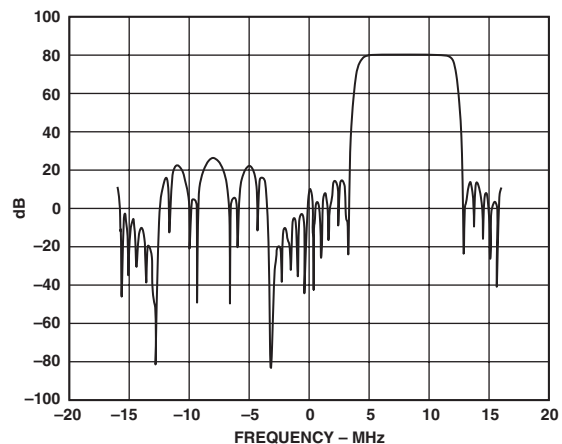

Figure 5. Tx Hilbert Filter, Keeping Positive Frequencies Spectral Plot
The Hilbert filter is available to provide a Hilbert transform of "real" input data at a low intermediate frequency (IF) between 12.5% to 38% of the input data rate. The Hilbert filter essentially transforms this "real," single channel input data into a complex representation (i.e., I and Q components) that can be used as part of an image rejection architecture. The complex data can then be processed further using the on-chip digital complex modulators. The Hilbert filter requires $4\times$ interpolation to be enabled and accepts data at a maximum 32 MSPS. Figure 5 shows a spectral plot of the Hilbert filter impulse response.